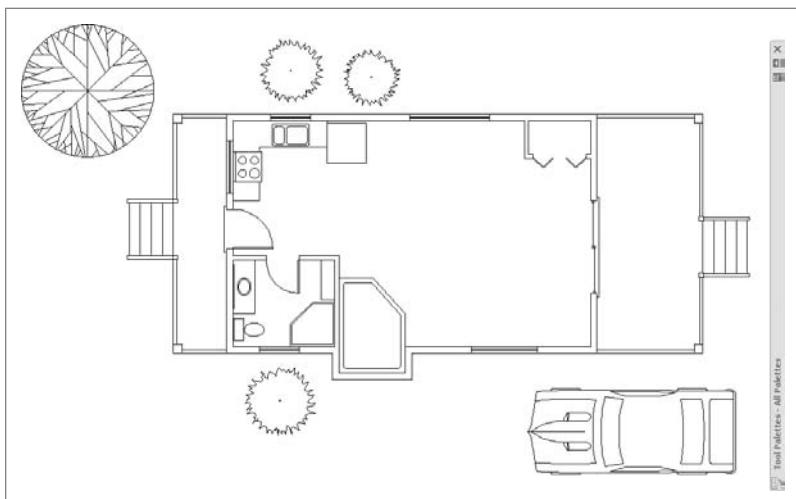

FIGURE 7.64 Trees and a car added from the Architectural palette
- ▶ Drag some of the dynamic blocks from the Civil, Structural, Electrical, Mechanical, Architectural, and Annotation sample palettes into the 07A-FPLAY4.dwg drawing, and experiment with them to see how they work. Figure 7.64 shows the cabin with a few trees and a car added from the Architectural palette.